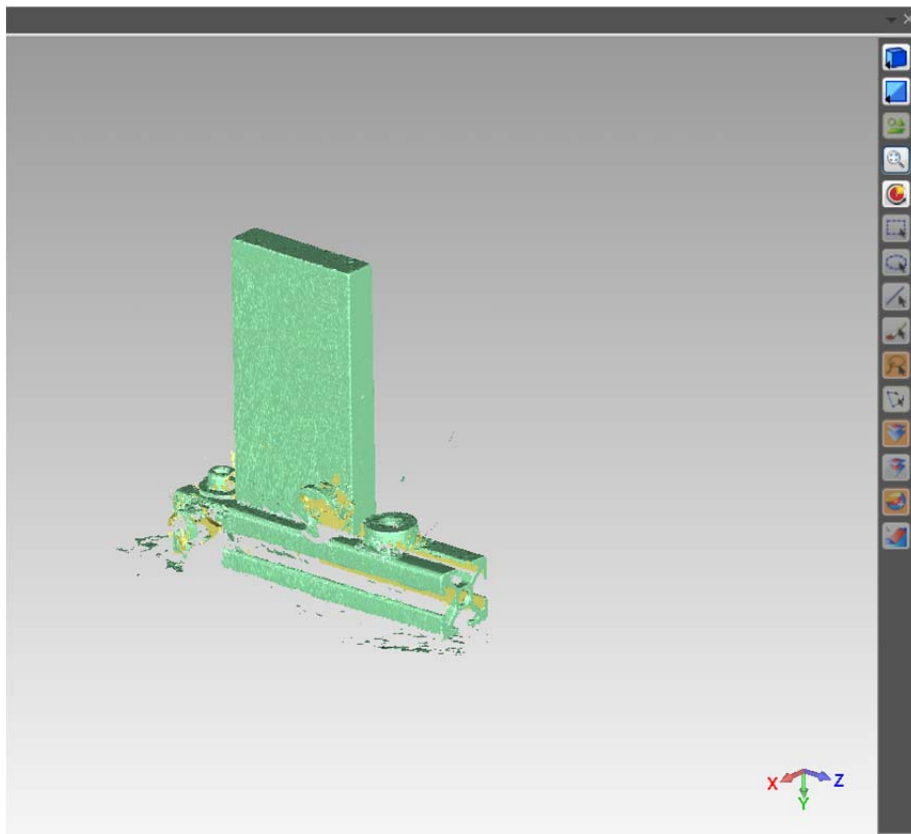

Figure B-11. Point Cloud Rendering of Sample
16. You can use the green button on the Scan Arm to pause and reposition yourself for a better scan of the sample. When finished you will see the part rendered as a point cloud in the graphics pane (Figure B-11).